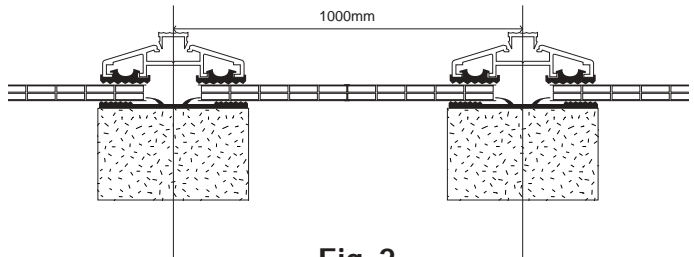
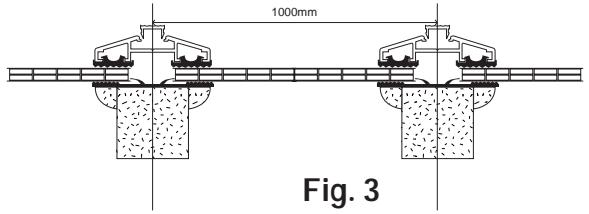

Fig. 2
Fig. 3
Step 1: Measure and set out where the rafters and if they are going to be used, purlins are going to lie. 60mm wide rafters are standard when using the 306/261 system. 16mm sheet can be accommodated on centres no more than 1000mm apart (Fig. 2), whereas the glazing centres for 25mm sheet can be extended to 1250mm. If 50mm wide rafters are already in place, you must fix a 5mm or 6mm quadrant to each side of the rafter, so turning it into a 60mm rafter (Fig. 3). Alternatively use the 227 aluminium base or the 500 system if glazing with 10mm twinwall polycarbonate.